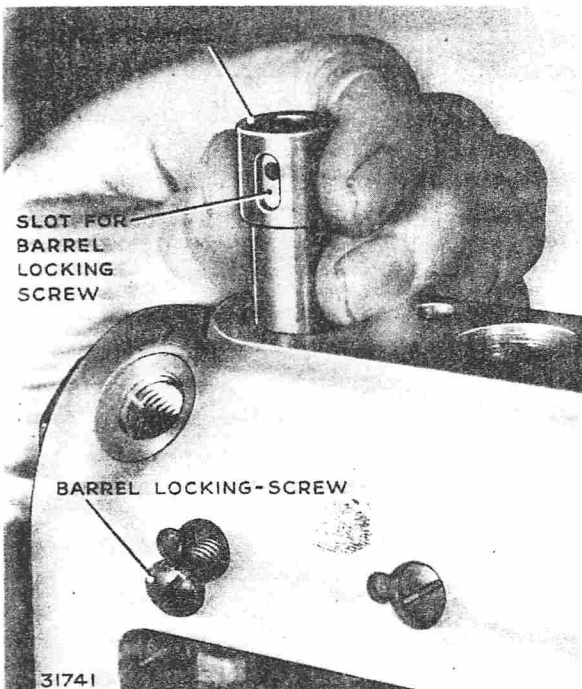

FIG. 40. REMOVING OR REPLACING PLUNGER BARREL
10. To remove the pump barrel, unscrew the locking screw situated above the inspection cover-plate and push the barrel from below with a fibre or soft brass drift (Fig. 40).
1. Fit the plunger barrel carefully, observing that the slot in it is opposite the hole for the locking screw (Fig. 40). Carefully screw in the locking screw, with new joint, until it locates with the slotted recess in the barrel, when it can be tightened. If correctly engaged, it will prevent rotating movement of the barrel whilst permitting a limited vertical movement.